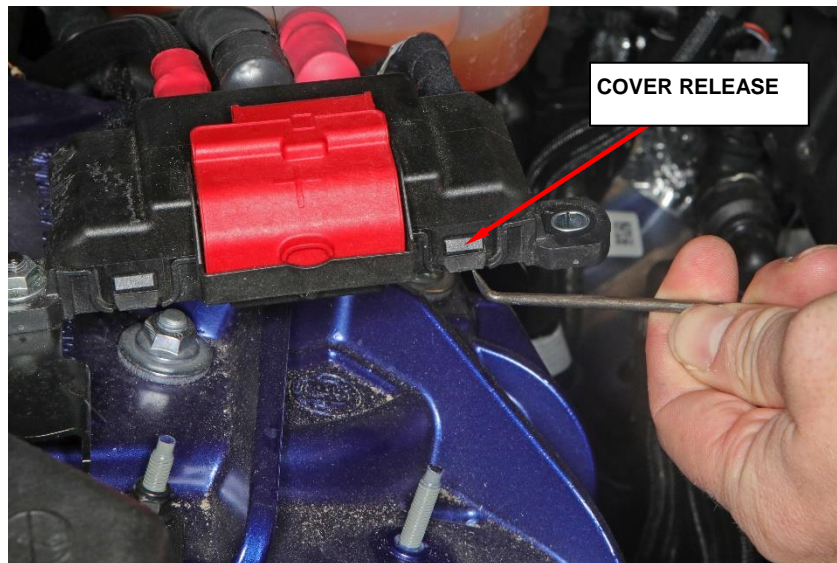

Figure 8 – Power Distribution Cover
13. **If equipped:** Using a small blade screw driver or equivalent release the power distribution cover (Figure 8).